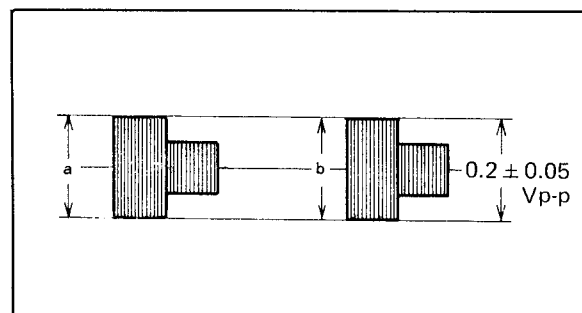

Fig. 6-33 Color record level
- Adjust R52 (P.B. COLOUR LEVEL) of Pre/Record board so that the level of TP-202 is $0.2 \pm 0.05 \text{ Vp-p}$ as shown in Fig. 6-33.